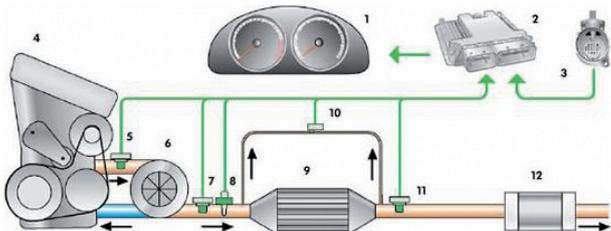

Figure 1. DPF
- Diesel Particulate Filter Systems with no additive (DPF)(figure 1).